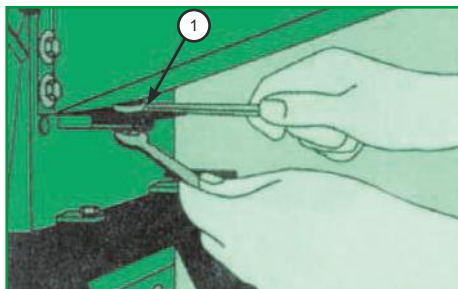
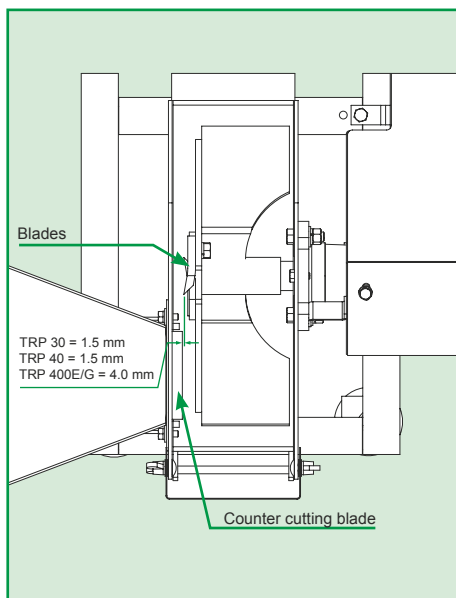

Figure 1
Figure 2
Periodic tightening of screws as well as the adjustment of the counter cutting blades are essential. The adjustment is done by loosening the hexagon nut (1) as in Figure 1 and by displacing the counter cutting blade until the cutting blades pass at a distance of approximately 1.5 mm for the TRP 30 and TRP 40 and 4.0 mm for the TRP 400E/G (Figure 2).